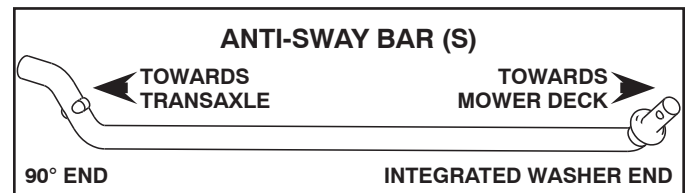

Fig. 9
5. INSTALL ANTI-SWAY BAR (S) (IF EQUIPPED) (See Fig. 9 - 11)